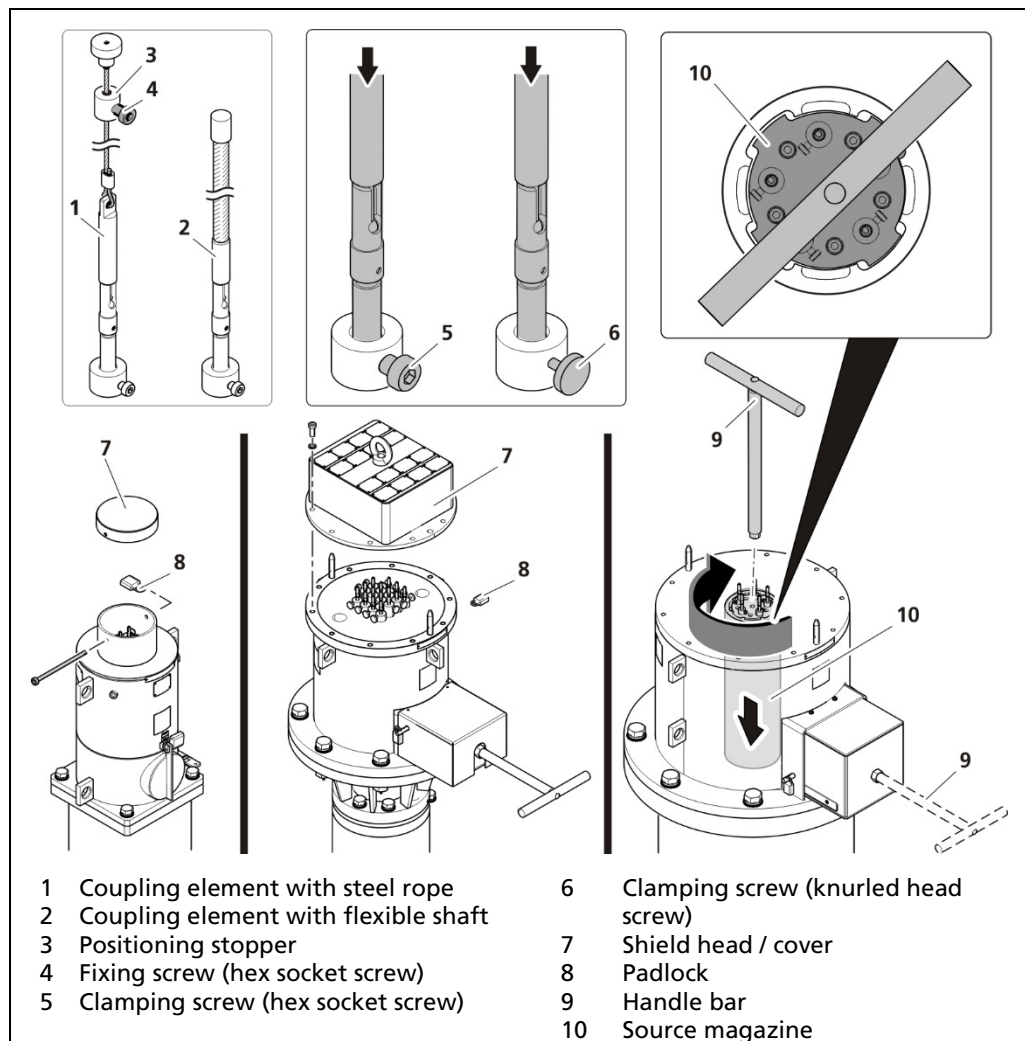

Fig. 16 Inserting the sources / source magazine
When using a steel rope (Fig. 16, item 1): Via the positioning stopper (Fig. 16, item 3) at the steel rope, set the desired depth of immersion into the dip pipe. Tighten the fixing screw (Fig. 16, item 4) on the stopper to 2 Nm. Open the respective clamping screw (Fig. 16, item 5; item 6) and lower the source on the steel rope until it reaches the set depth of immersion into the dip pipe.
When using a flexible shaft (Fig. 16, item 2): Open the respective clamping screw (Fig. 16, item 5; item 6) and move the source into the desired measurement position. Via the clamping screw, set the desired depth of immersion into the dip pipe.
When using a source magazine (Fig. 16, item 10): Remove the handle bar (Fig. 16, item 9) from the shutter and screw it in the centre of the magazine. Turn the magazine to the next position segment which allows you to release the magazine into the dip pipe adapter.
2. Attach and screw the shield head / cover (Fig. 16, item 7).
3. Secure the shield head / cover with the padlock (Fig. 16, item 8).
5. Remove the handle bar (Fig. 16, item 9) and attach it to the shutter again.